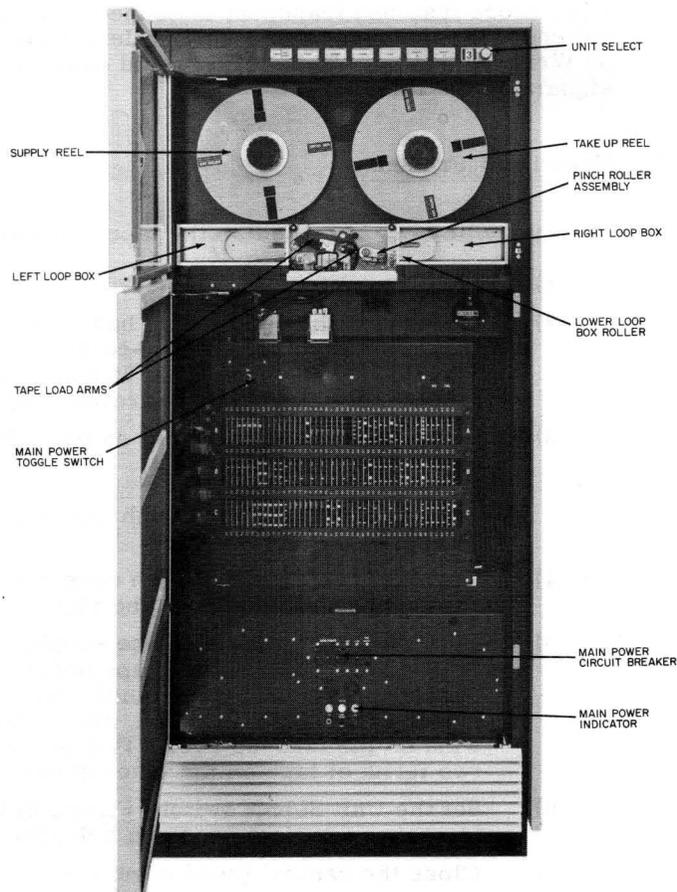

Figure 9. 601 Tape Transport
- 1) Open the lower door on the front of the cabinet (Figure 9).
- 3) Mount the tape supply reel on the left-hand hub (Figure 9) and tighten the hub knob.
- 6) Set the Unit Select switch (Figure 9) to one of eight (0-7) positions to assign a logical program selection number.